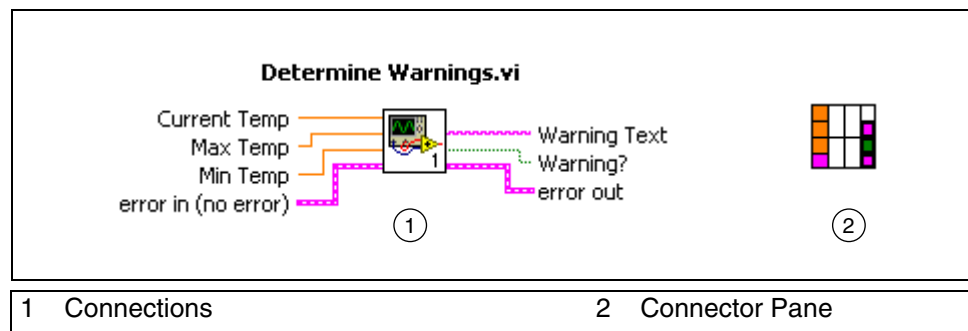

Figure 7-7. Connector Pane Connections for Determine Warnings VI
4. Connect the inputs and outputs to the connector as shown in Figure 7-7.
- Continue wiring the connector pane until all controls and indicators are wired, and the **Context Help** window matches that shown in Figure 7-7.